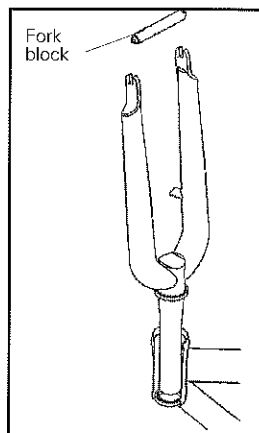

Fig. 47
23. Insert the steerer into the head tube and upper bearing (Fig. 47).